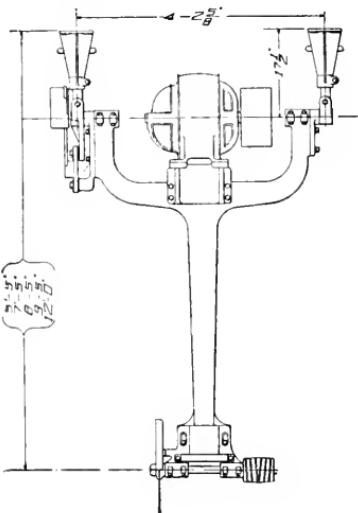

FIG. 1. — SWING CUT-OFF SAW.
2.- General The swing cut-off saw, Fig. 1, is supported from the wall and ceiling and has a large counterweight to pull it back to the wall after making a cut. The frame is of heavy cored construction and rests against the wall back of the table when not in use. The table has rollers, the face of which are slightly higher than the table. This is done in order to make it easier to move the stock while working at the saw. The motor rests in the top of the frame and drives the saw by means of an endless belt. In the best types of saw the construction is such that the belt can be tightened without cutting it. Figures 1 and 2 show the slotted holes just above the arbor which permits of this adjustment. Another advantage of this construction is that the saw arbor may be removed from the frame for rebabbing the bearings.